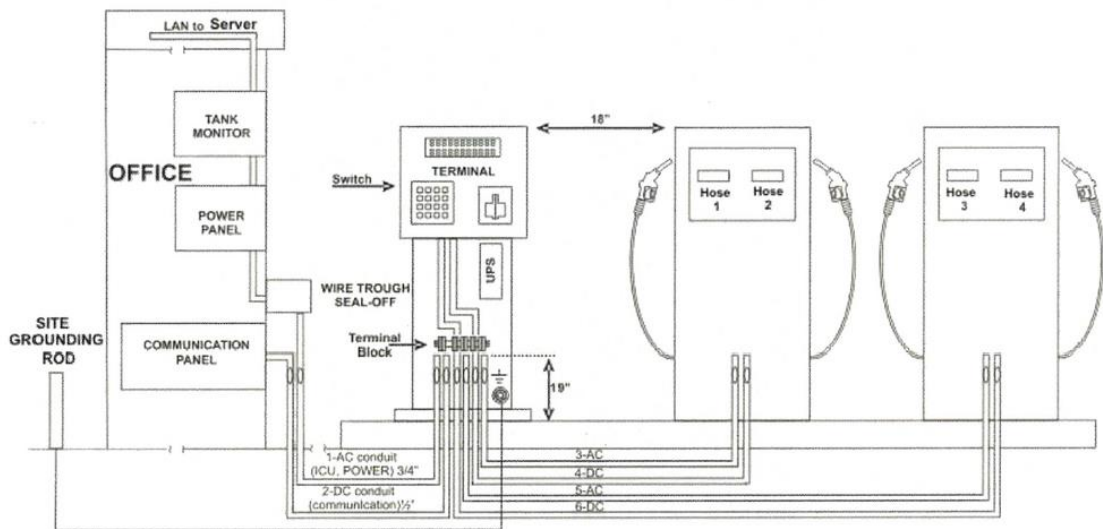

Figure 4 Site Layout
The FuelFocus™ Controller should be mounted on the fuel island (see Figure 4). A minimum clearance of 18" must be maintained between the FuelFocus™ Controller and any of the pumps or dispensers. This clearance meets the NFPA 30A and NFPA 70 requirements and allows room for wiring and maintenance of the system.
1. Prepare and mount the following conduits according to Figure 4 as a guide:
- A 3/4" metal conduit for running cables from the dispenser's pulser junction box to the barrier plate inside the FuelFocus™ Controller pedestal and then flexible metallic conduit from the barrier plate up to the base of the controller head. (See Figure 4 metallic ISB conduit).
3. All FuelFocus™ Controller conduits must be concentrated in a 10.5" x 11.5" square pattern to fit the inside dimensions of the pedestal base (see Figure 4).